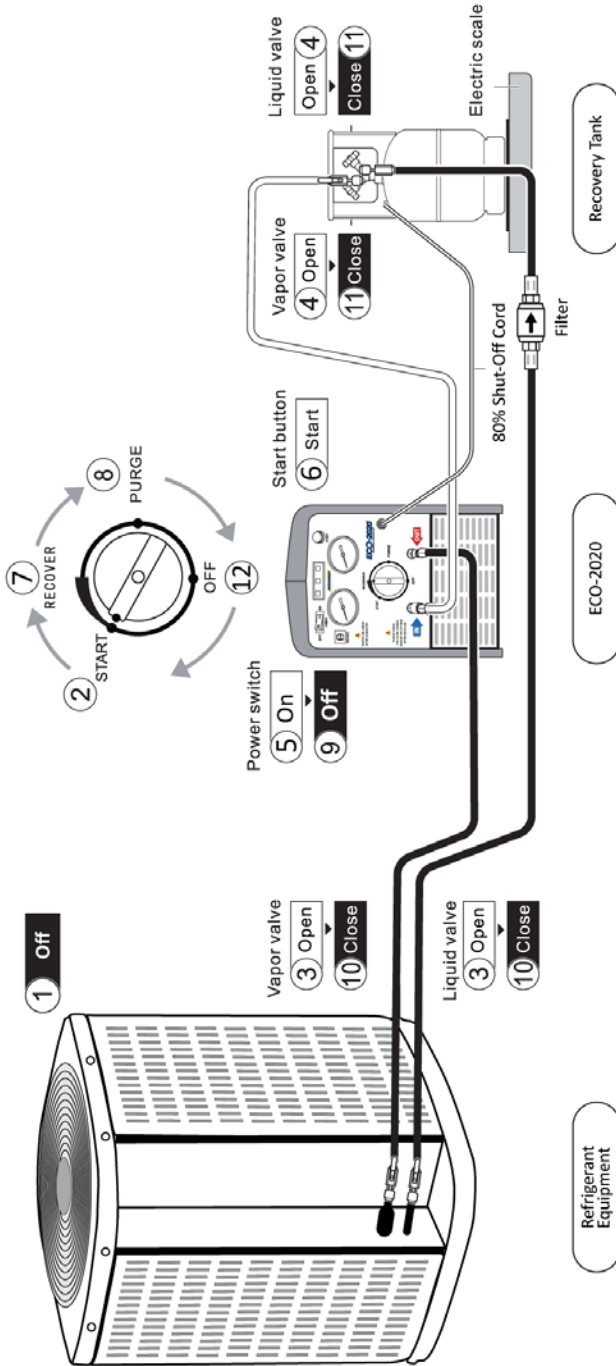

Figure 8. Liquid Push/Pull Configuration
**IMPORTANT:** Make all hose connections as shown in Figure 8. Ensure that all connections are correct and secure.